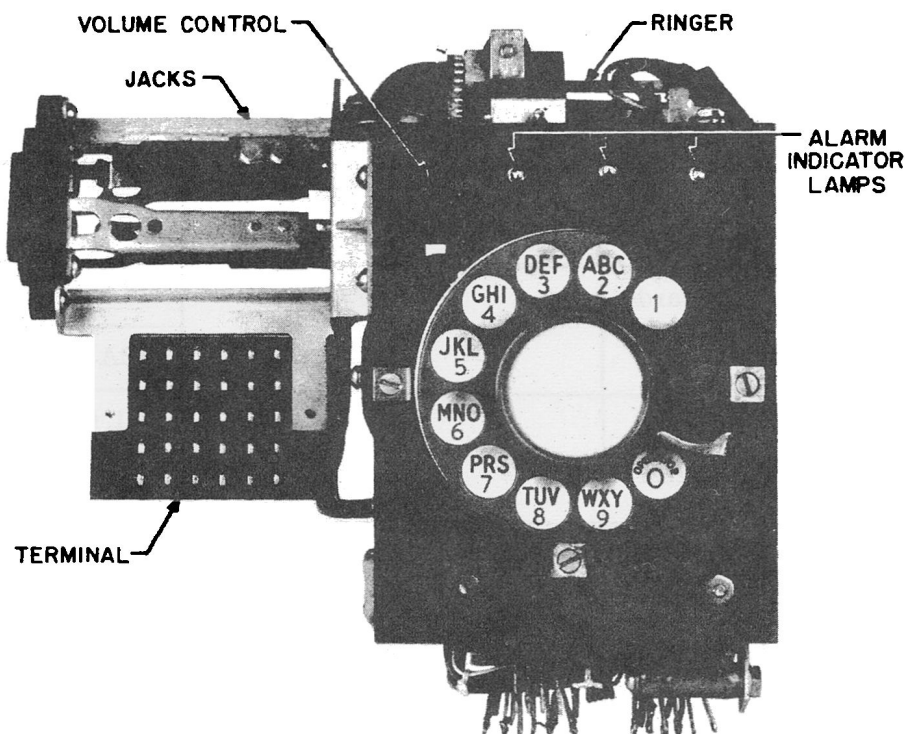

Fig. 15 – 751-type Apparatus Unit, Front View
6.05 Components and features of the 751A apparatus unit are shown in Fig. 15 and 16. Design of this unit requires that it be installed on the left side of the assembly.